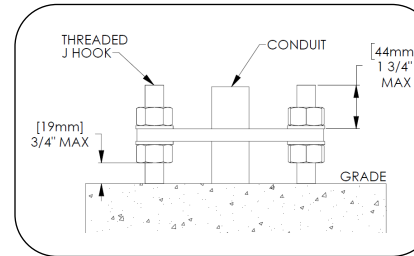

Fig. 1 – Anchor install detail
2. Install anchor hooks, hex nuts, washers and template as shown in Fig 1. Level template in all directions. **Note:** template thickness is less than base plate thickness. Dimensions given account for the difference.